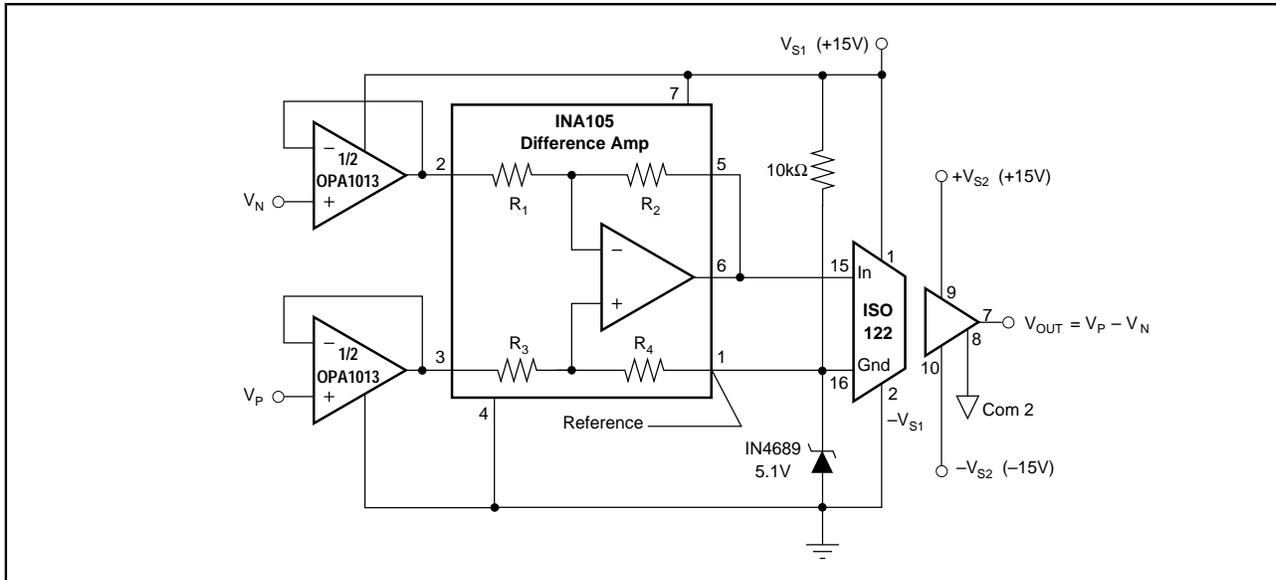

FIGURE 4. Single Supply (almost—see text), Isolation Amplifier with High-Impedance Differential Inputs..
For an instrumentation amplifier (IA) front end, the other half of the OPA1013 can be connected to the inverting input of the INA105 (pin 2) as shown in Figure 4.